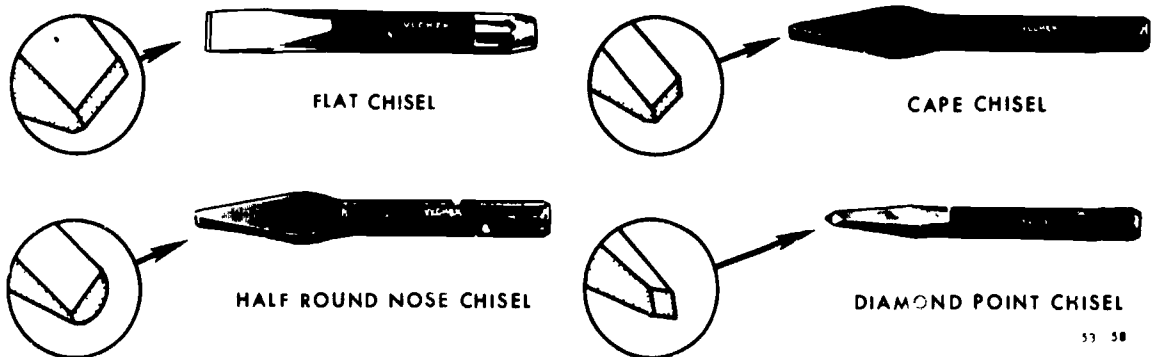

Figure 5-1. Chisels.
**Chisels.** Another tool that is used in conjunction with the hammer is the chisel. As you know, chisels are metal-cutting tools and have a sharp cutting edge. They will cut any material that is softer than the chisel (including fingers!), so be careful how you handle them. As shown in figure 5-1, chisels come in different shapes and sizes.